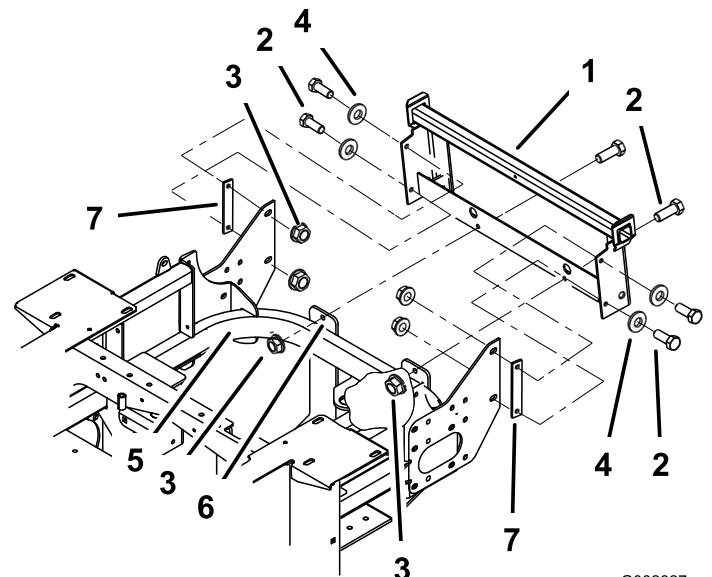

Figure 6
6. When installing the bagger mounting bracket to the side brackets use the spacer provided in this kit (Figure 6).